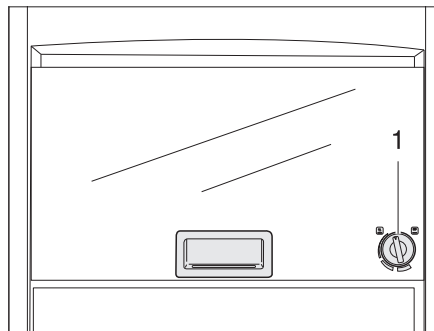

Fig. 311 Gas oven (Dometic)
- Gently press the control knob (Fig. 311,1) and turn left to any position.
- Turn the control knob (Fig. 311,1) to "O". The flame fades.